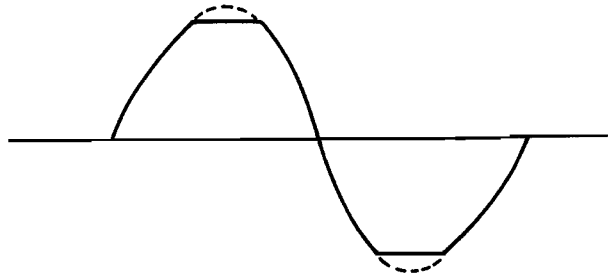

Fig. 2
- Gradually increase the output of the audio oscillator until the wave form on the oscilloscope (see Fig. 2) begins to be clipped. Adjust the left channel potentiometer VR-201 (100 K $\Omega$ ) and the right channel VR-251 (100 K $\Omega$ ) so that both upper and lower peaks of the wave forms begin to be clipped simultaneously at the same point of the curve. In case an audio oscillator or an oscilloscope is not available, adjust Potentiometer VR-201 (L.CH.) and VR-251 (R.CH.) so that the voltage between the plus side of the large capacity condenser which is connected to the speaker and ground is half of the supply voltage (80 V). At this time, the VOLUME knob on the front panel should be kept at minimum position